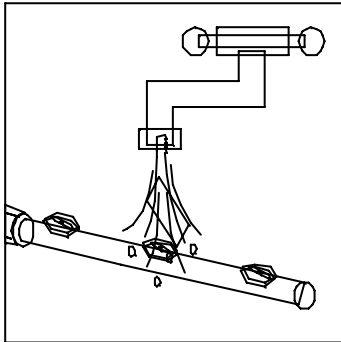

Fig.14
- Clean the washing and rinsing injectors (Figs.14, 15, 16)
- Check and clean the injectors frequently, see figures 14,15 and 16.